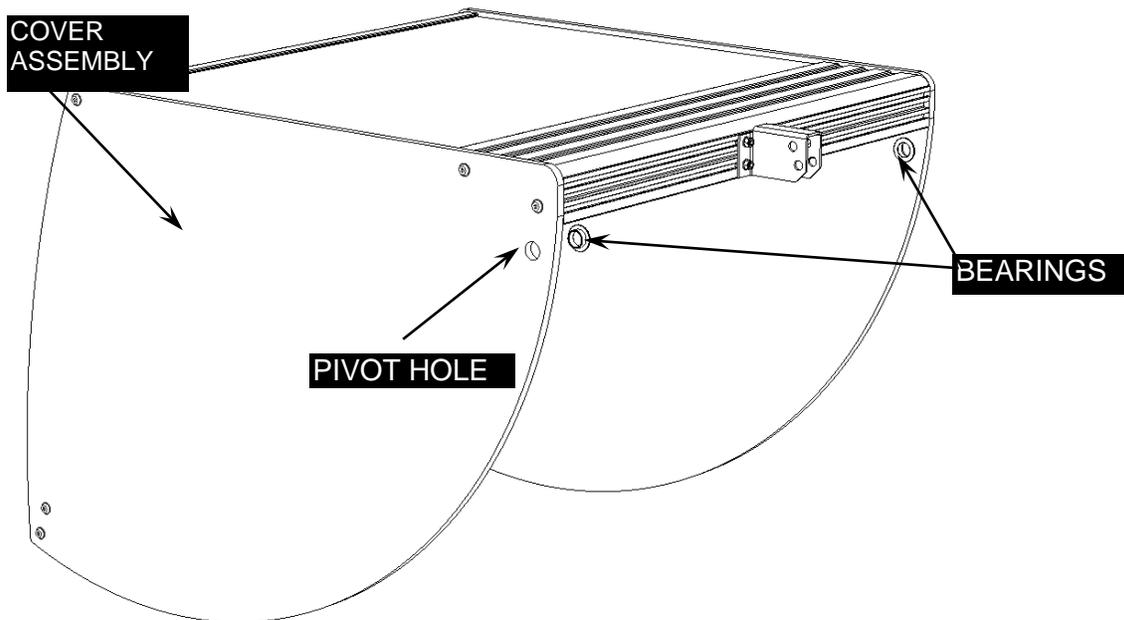

Figure 6-6: Top Cover Assembly
1. Remove the protective film from the inside of Blue Cover Assembly and fit two Bearings into the Cover Pivot Holes, one either side of the Cover (Figure 6-6).